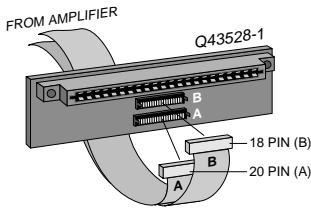

Fig. 3.3 PIP2 Input Adapter Connection
involve disconnecting the *P.I.P.* from a *PIP2* input adapter (see Figures 3.3 and 3.4). If a *PIP2* input adapter is already present, do **not** remove the ribbon cables from the adapter. Otherwise you will have to reconnect them in the next step.
PIP2 Amplifiers: (Requires a *PIP2* input adaptor. Crown part number Q43528-1.) Connect the *PIP2* input adapter to the two input cables of the amplifier (see Figure 3.3). Notice that the *PIP2* input adapter should be positioned with the *P.I.P.* edge connector on top and facing away from the amplifier. The 20 pin cable (A) is connected first then the 18 pin cable (B) is connected. Both ribbon cables should extend below the *PIP2* input adapter.